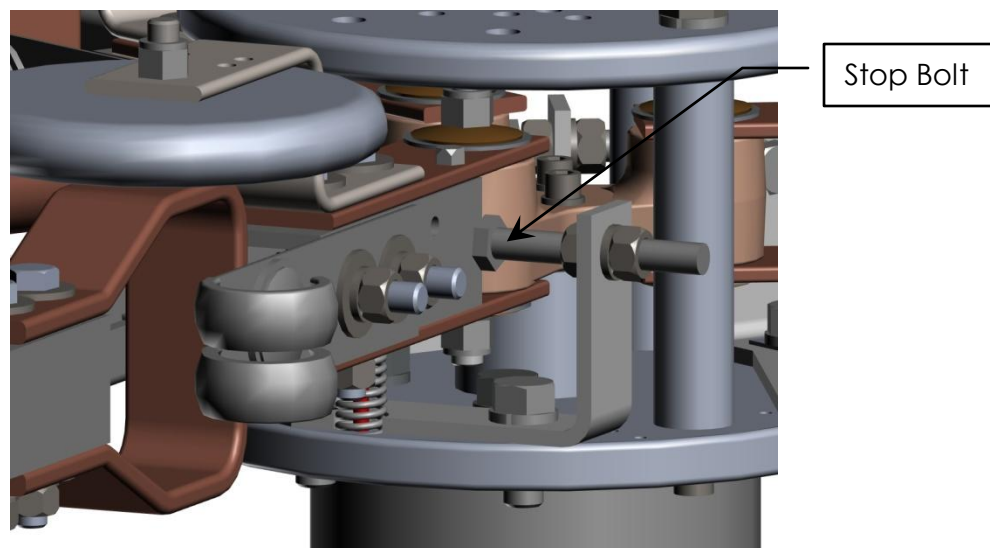

Figure 14: Left-Handed Live Parts Closed Position Stop
- 3) The live part closed position stop is correctly engaged when it touches the female blade lightly. Adjust the bolt if necessary. Figure 14 illustrates the left-handed live part stop bolt. The right-handed live parts stop bolt is on the opposite side of the female blade.